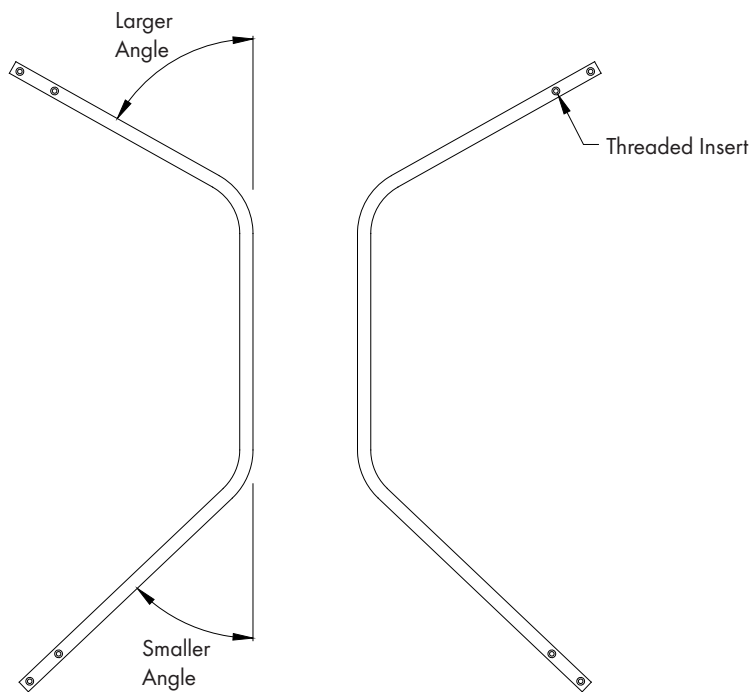

Figure 4
- A) The angle of bend in strut will determine the top/bottom. The larger angle is the top of the strut and the smaller is the bottom. See Figure 4.
- B) With struts in front of you. The Left strut will have the threaded inserts facing you on the left and the Right strut will have threaded inserts on your right. This is the exhaust side. See Figure 4.